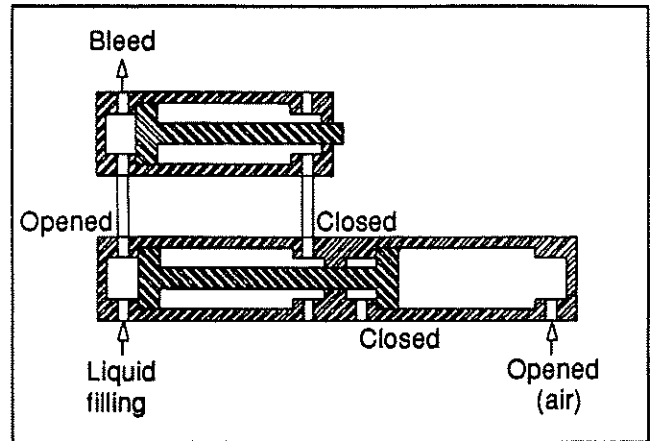

Fig. 3 - Door closed
4. Close the door manually, then the hydro-pneumatic system should be as shown in figure 3.
5. Fill the master cylinder with a low flow rate and pressure pump (less than 75 psi (515 kPa)), through the filling cock. See figure 3.